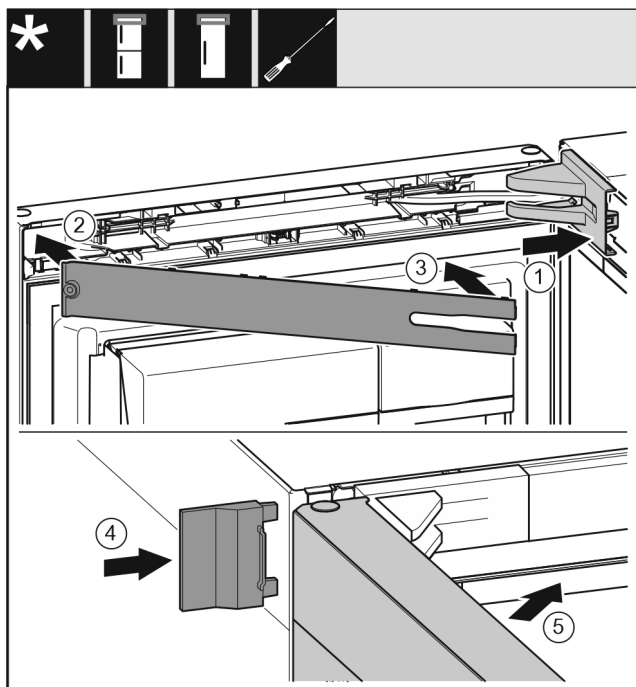

Fig. 26
- ▶ Position the bearing bracket cover and engage it. If necessary push it apart carefully. Fig. 26 (1)
- ▶ Place on the panel. Fig. 26 (2)
- ▶ Swing in the panel and latch it into place. Fig. 26 (3)
- ▶ Slide on the outer cover. Fig. 26 (4)
- ▶ Close the upper door. Fig. 26 (5)